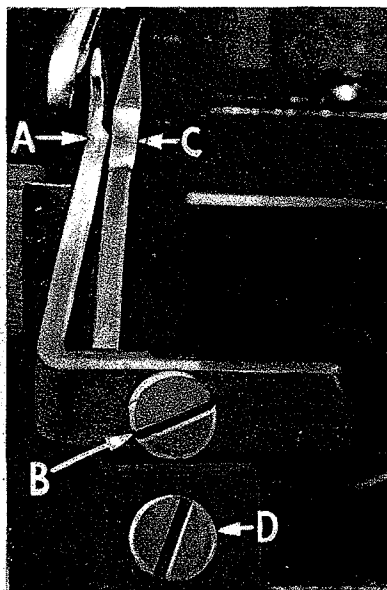

Fig. 6
Set rear needle guard as high as possible (A, Fig. 6) without interfering with either lower spreader or movement of lower knife holder, but still in position to deflect needle forward, .002 to .004 inch. Screw (B) is used to set the rear needle guard. Make sure there is no interference between the rear needle guard and lower spreader.
Assemble front needle guard (C, Fig. 6). When lower spreader is springing needle off back guard, set the front needle guard as close as possible to needles without touching. Screw (D) is used to adjust and set front needle guard. After this setting, make sure there is no interference between the needle guards and differential feed dog.